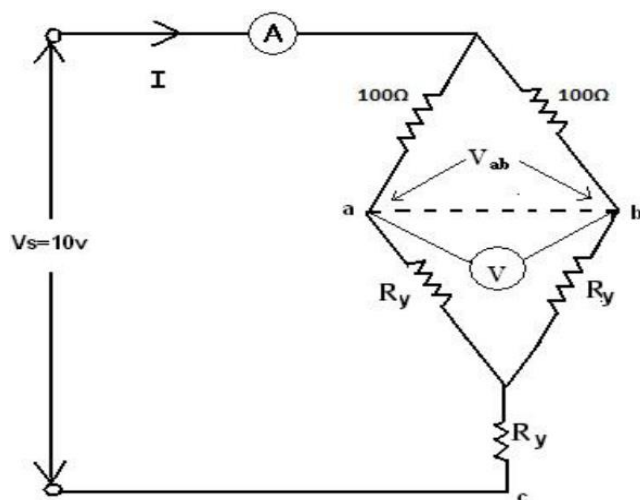

Figure 5.4
4. Insert the values of resistors in the Y as shown in Figure 5.4.